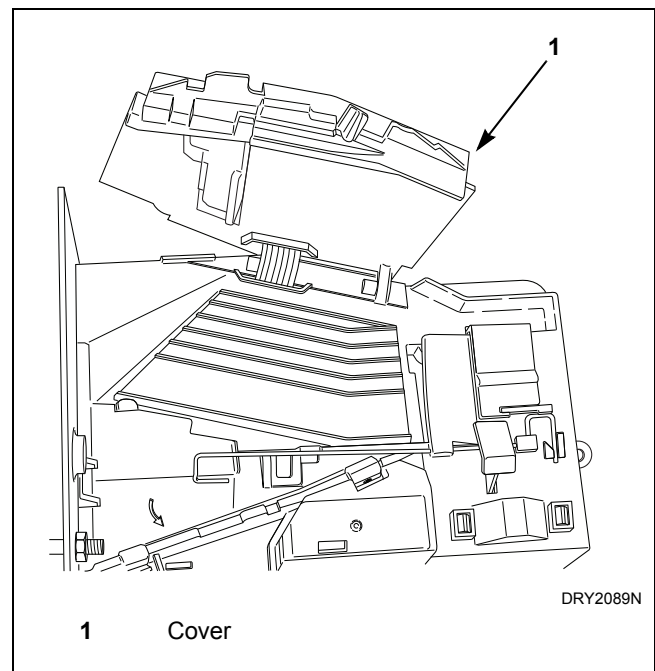

Figure 2
- b. Open cover for coin drop. Refer to *Figure 2*.